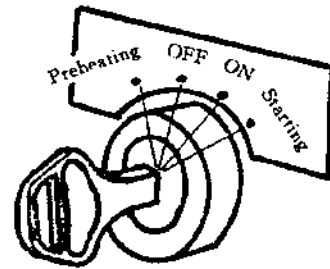

Fig. 4-2
4.2 Starting the engine(Fig. 4-2)